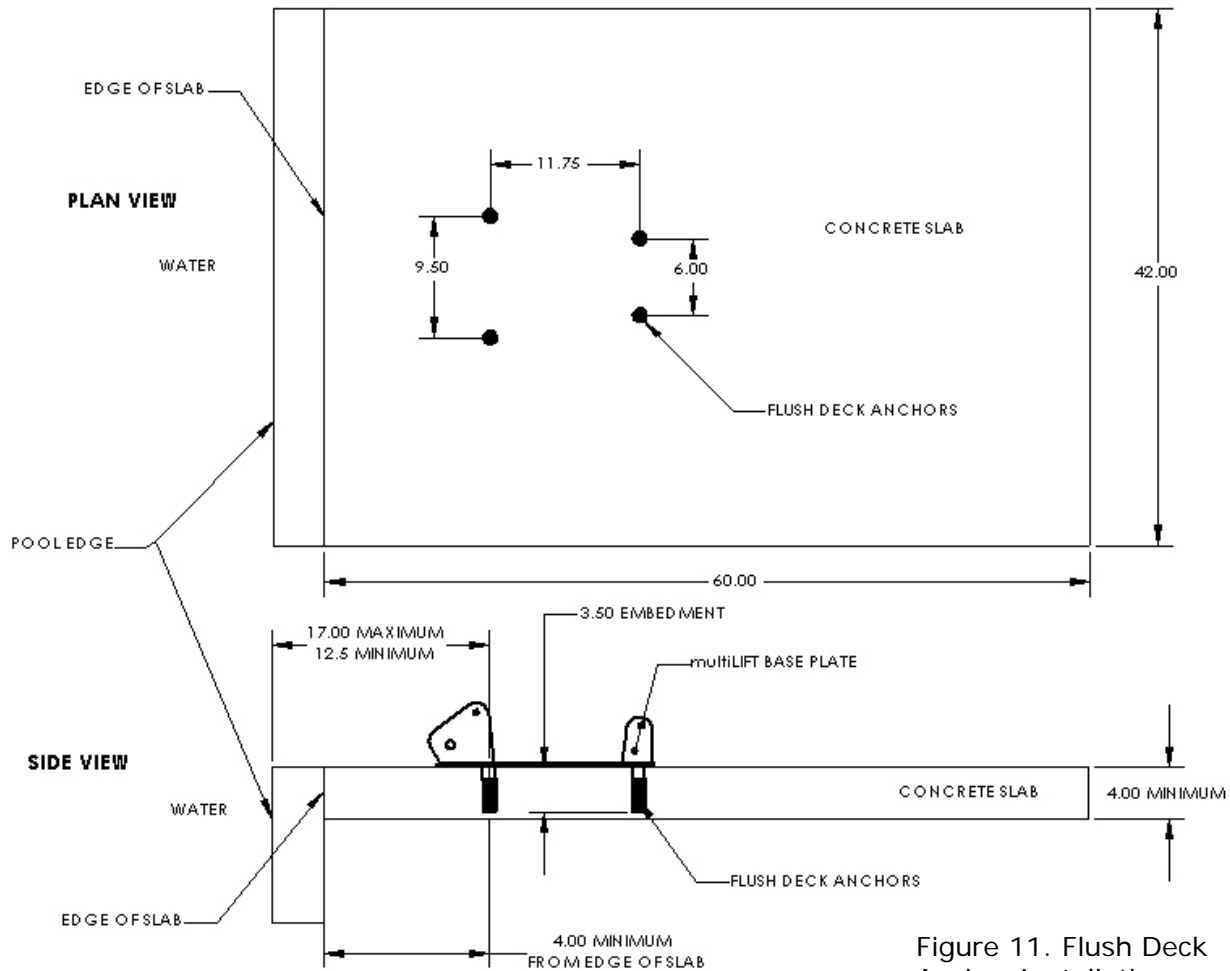

Figure 11. Flush Deck Anchor Installation Layout
- Slab dimensions should be at least 42" X 60" X 4", see **Figure 11** above.